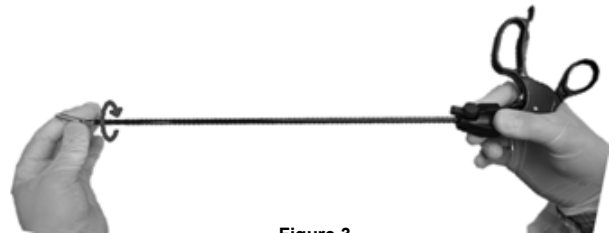

Figure 3
- Step 2:** Grasp the rotation assembly with one hand to keep it from turning while unscrew (turn counter-clockwise) the Insert from the shaft assembly until it can be pulled from the shaft assembly—(See Figure 3)